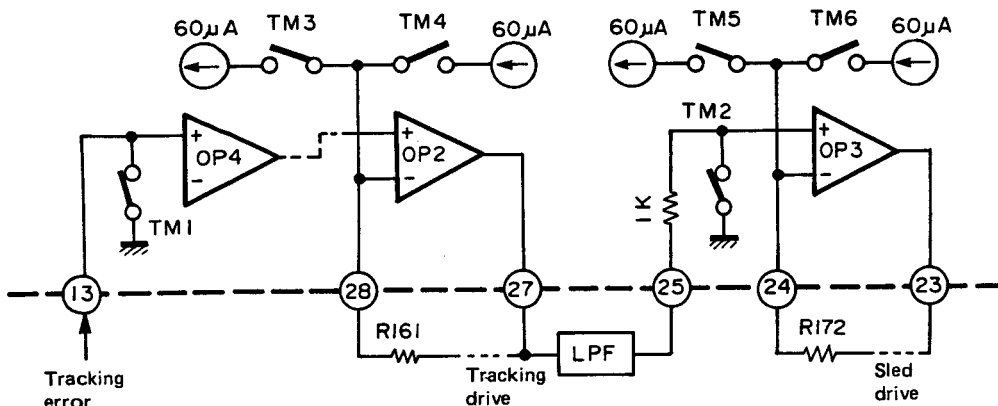
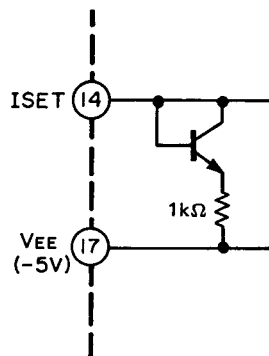

Fig. 7-14 TM1~TM7
Fig. 7-15 ISET terminal
The circuit composition is shown in Fig. 7-14. TM1, TM2 make servo ON/OFF, and TM3~TM6 produce jump pulse and fast feed pulse. See truth value table for details.
Figure 60µA is observed in Fig. 7-14. This value is of the case where 240µA is fed to ISET (14) terminal like SF1. The circuit of (14) terminal is as shown in Fig. 7-15. Therefore, the potential is around (-)VEE + 0.9V.